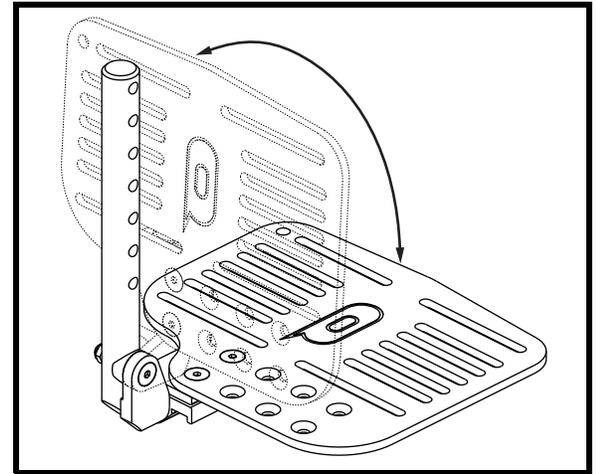

Figure 29. Foot Plate Flip Up Adjustment
The angle adjustable foot plates have two adjustments: angle and depth. The depth can be adjusted to four (4) positions in 1-in. (2.5 cm) increments. If the position of the foot plate adapter is reversed, an additional 0.75 in. (2 cm) of depth can be achieved at the most forward and most rearward positions. See **figure 29**. The foot plates can also be flipped up for ease of transfer. See **figure 29**.